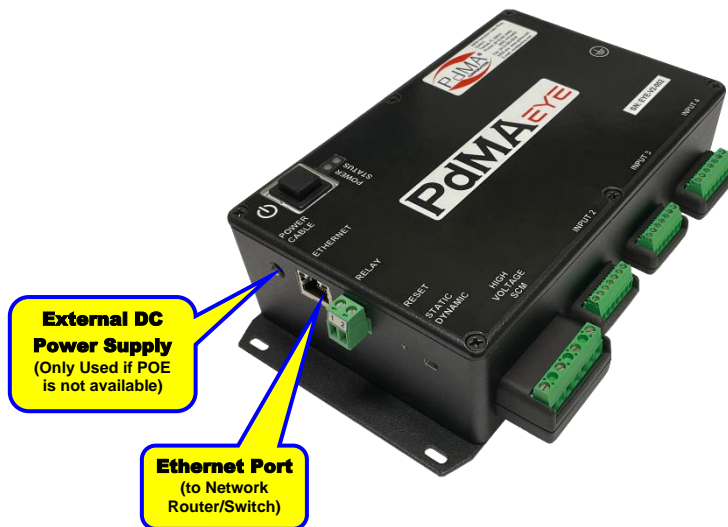

Figure 2 - Power Supply and Network Port
2. Connect the Ethernet LAN cable from the Network Router/Switch into the Ethernet Port of the PdMAEYE as shown in Figure 2.
3. If the external 12VDC, 1.5A Power Supply is required, plug it into the External DC Power Supply Port as shown in Figure 2.